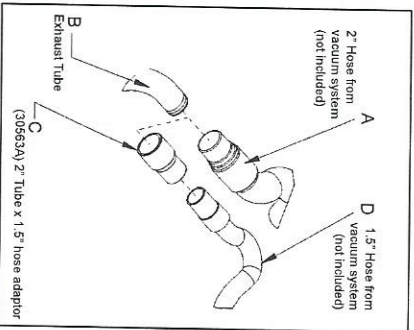

Figure 1
1. Install 2" hose end (figure 1, A) directly over the exhaust tube (figure 1, B).
1. Install the 2" x 1 1/2" hose end adaptor (Part No. 305632A) (figure 1, C) over the exhaust tube (figure 1, B).
2. Insert 1 1/2" hose end (figure 1, D) into the adaptor (figure 1, C).